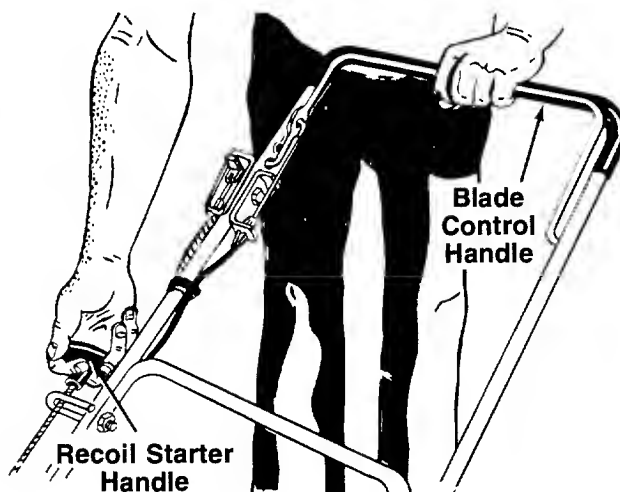

FIGURE 16.
4. Standing behind the unit, depress the blade control handle and hold it against the upper handle as shown in figure 16.